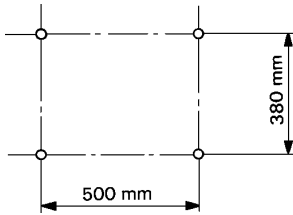

Fig. 13
1) This Condenser Unit is provided with four mounting holes. Secure the Condenser Unit with four bolts. See Fig. 13.